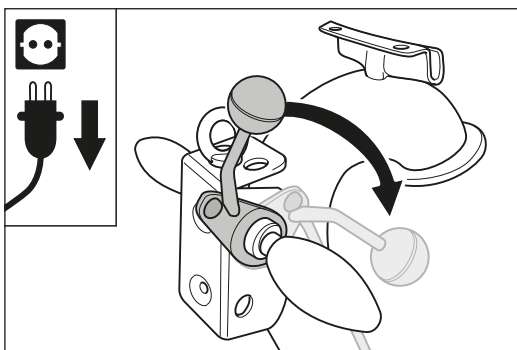

Fig. 56 Press the lowering lever at the handle downwards to lower the sanding drum onto the floor.
- 10 Press the lowering lever at the handle downwards (fig. 56) to lower the sanding drum onto the floor.